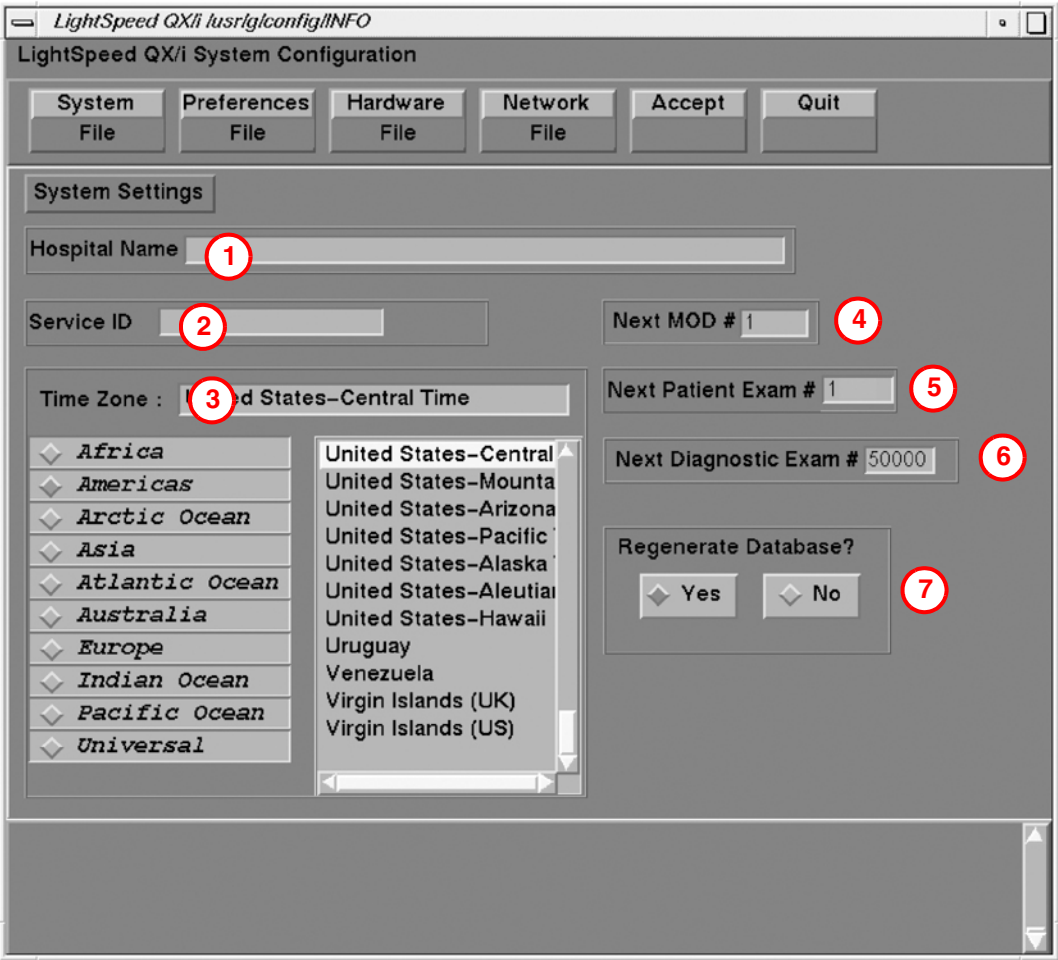

Figure 6-13 System Settings Screen
The OC displays the LightSpeed 3.X System Configuration - System Settings Screen as shown in Figure 6-13.
- a.) Hospital Name (Figure 6-13, item 1) configures the name that will show up on images produced by this scanner. *Example:* ST MARYS HOSPITAL
- b.) Service ID (Figure 6-13, item 2) is issued by the Service organization.
- 6.) Regenerate Database (refer to Figure 6-13) determines whether the Scan Database will be regenerated during reconfiguration.